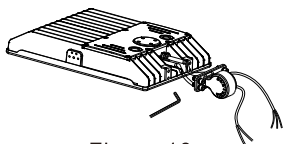

Figure 10
Step 1: Separate the bracket with tool. (Figure 10)